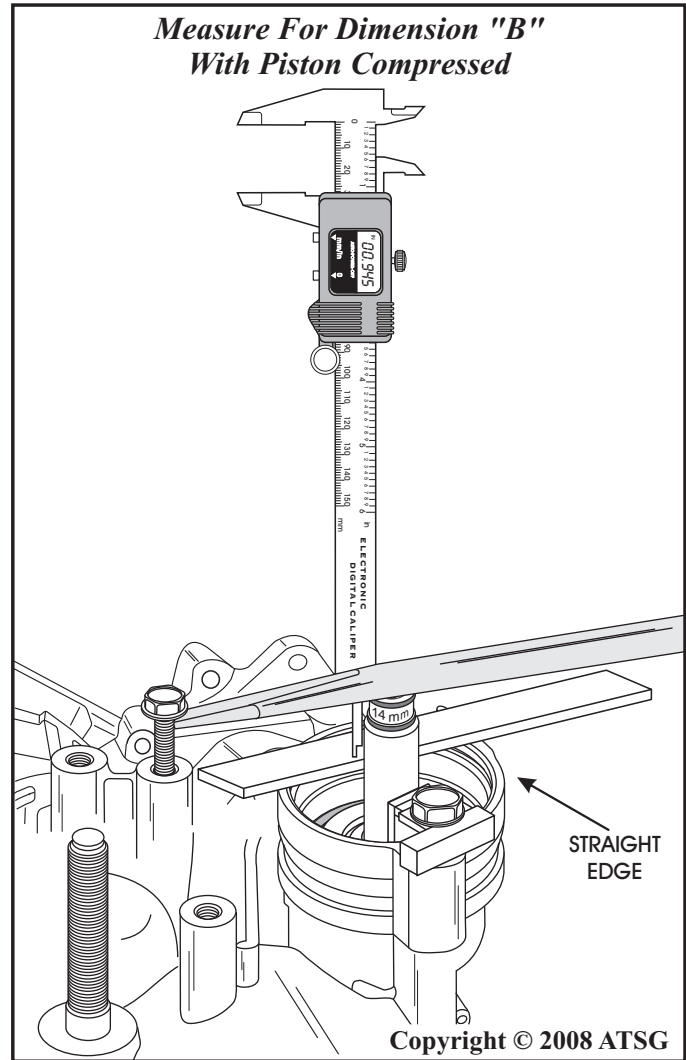

Figure 135
8. Fully compress the servo piston and the 14mm socket, using a large screwdriver, as shown in Figure 135.